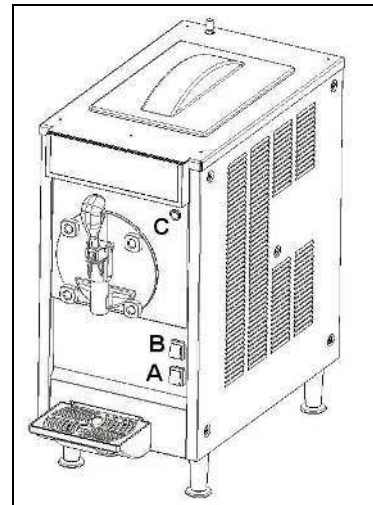

Fig. 7
- Restore the lid back in place, insert the plug into the main and switch on the main switch A (fig.7).
- Switching the button A on the snowflake position the refrigerating system will be activated in freeze or defrost mode depending on the B switch position (fig.7 and 8).
- Switching the button A on the wash position, only the mixing unit rotation will be activated while the refrigerating system will be off (fig.7 and 8).